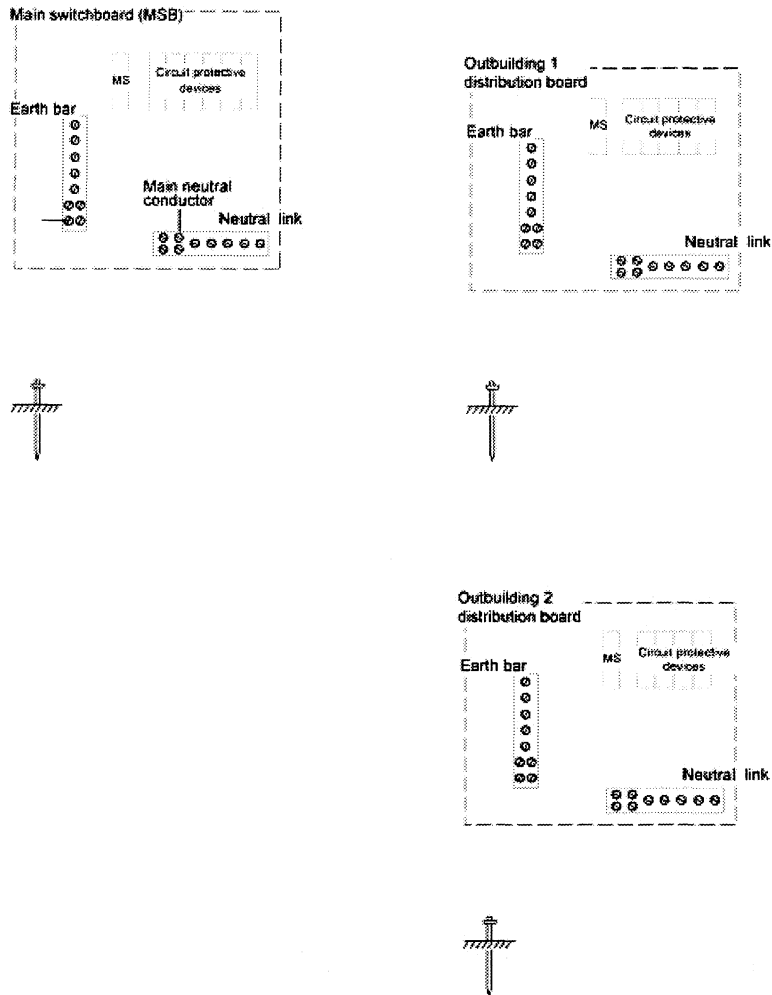

Figure T.3
3. In the electrical installation represented in Figure T.3 outbuilding 2 is to be supplied from outbuilding 1 and both outbuildings are to have a separate MEN installed. Show an acceptable arrangement of supply and earthing by drawing the supply and protective earthing conductors and writing on each conductor and termination the compliant Clause No.